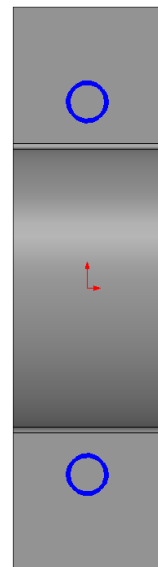

Fig. 10
- Step 3. Click **Circle**  (S) on the Sketch toolbar.
- Step 4. Draw **two circles** for the holes, Fig. 10.